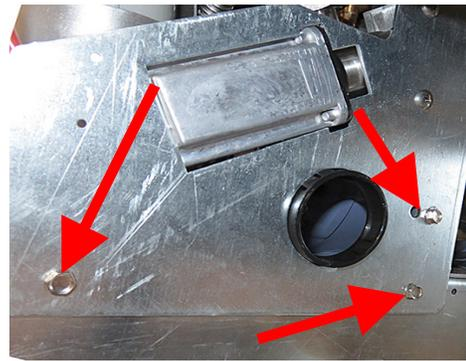

Figure 15
17. Although the bracket shown may vary slightly, remove the screws that attach the OQS bracket to the frame (see Figure 15).